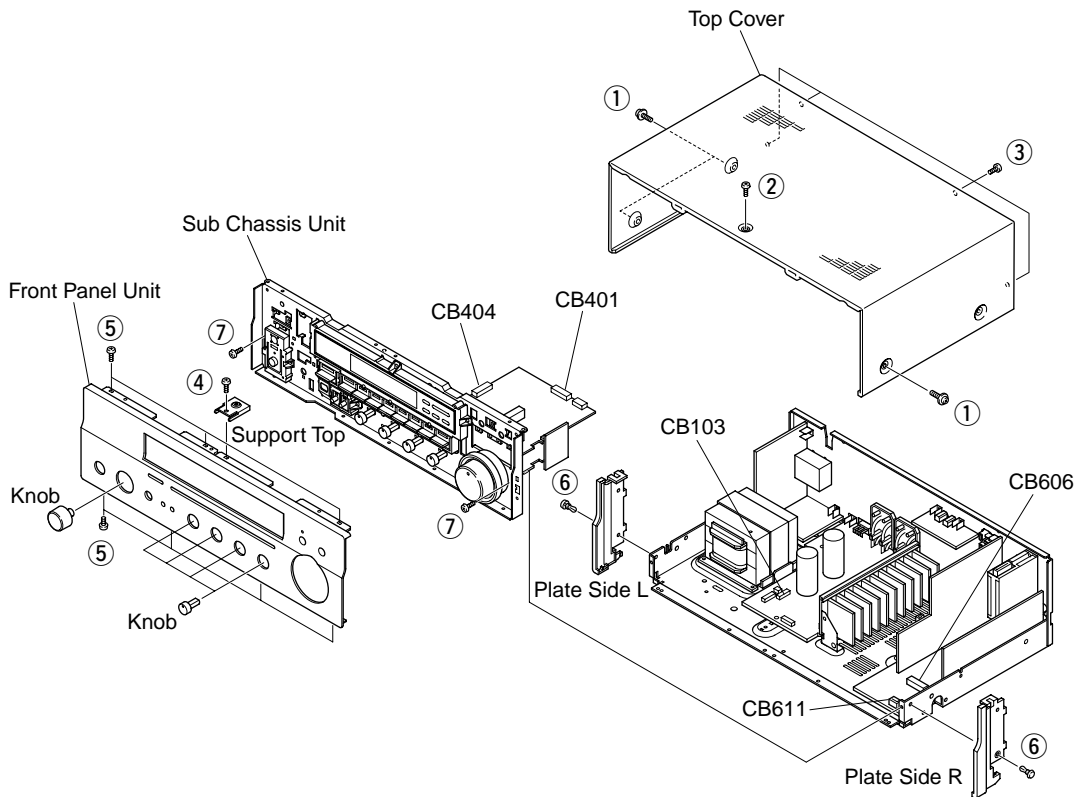

Fig. 1
- ⑭ OPERATION (1) P.C.B.
- ⑮ OPERATION (8) P.C.B.
- ⑯ OPERATION (5) P.C.B.
- ⑰ OPERATION (7) P.C.B.
- ⑱ OPERATION (4) P.C.B.
- ⑲ OPERATION (9) P.C.B.
- Remove 4 screws (①), 1 screw (②) and 4 screws (③). (Fig. 1)
- Slide the Top Cover rearward to remove it. (Fig. 1)
- Remove 1 screw (④) and then remove the Support Top. (Fig. 1)
- Remove 7 screws (⑤) and then remove the Front Panel Unit. (Fig. 1)
Remove 2 push rivets (⑥) and then remove the Plate Side L/R. (Fig. 1)
- Remove 2 screws (⑦) and then slide the Sub Chassis Unit forward. (Fig. 1)
- Remove connectors CB103, CB401, CB404, CB606 and CB611 and then remove the Sub Chassis Unit. (Fig. 1)